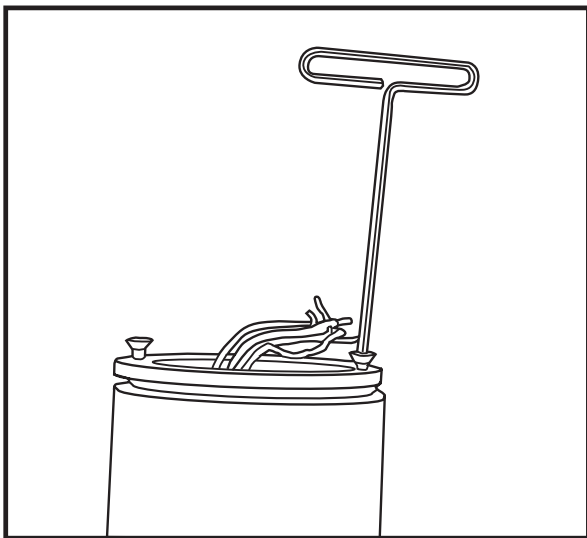

Fig. 36
5. Remove socket type flat head screws from bearing cap and thread into tapped back-off holes to force cap from housing. See Figure 36.